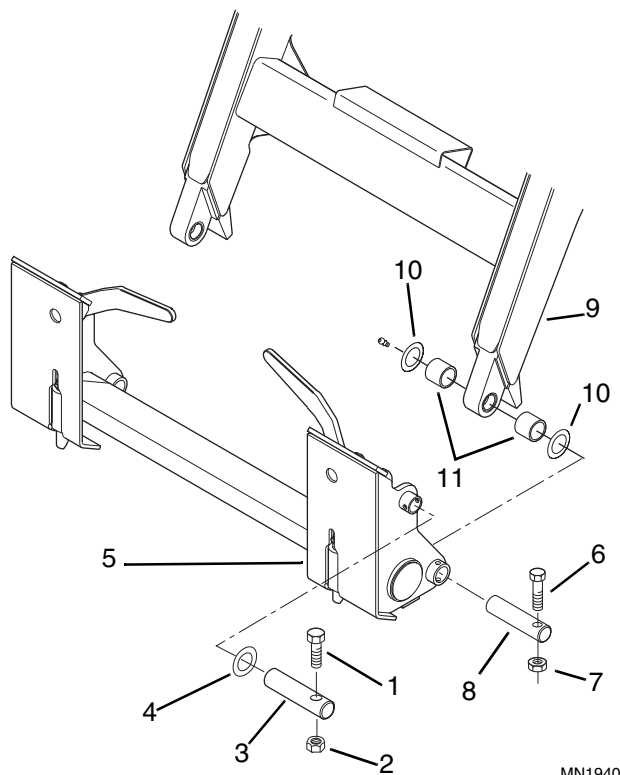

Figure 9-7 Quick Attach Removal
8. Remove the capscrew (Fig. 9-7, 1), locknut (2), pin (3) and any shims (4) attaching the rod end of the attachment tilt cylinder to the quick attach frame (5).
9. Remove the capscrew (Fig. 9-7, 6), locknut (7), pin (8), and any shims (10) attaching the loader arm (9) to the quick attach frame (5).
5. Inspect condition of bushings (Fig. 9-7, 11) in loader arm pivots. Replace if worn or damaged.